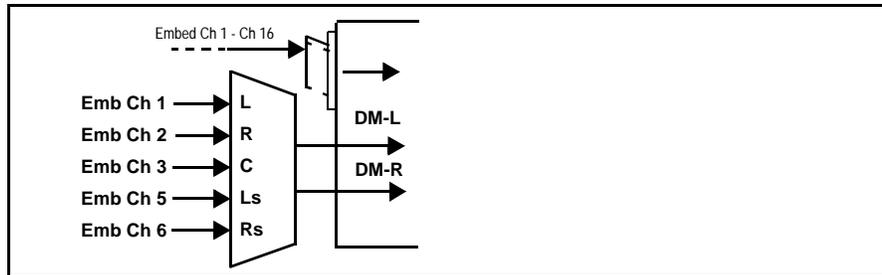

Figure 1-4 Audio Down Mix Functional Block Diagram with Example Sources
(See Figure 1-4.) The Audio Down Mixer function provides for the selection of any five embedded channels serving as Left (L), Right (R), Center (C), Left Surround (Ls), and Right Surround (Rs) individual signals to be multiplexed into stereo pair Down Mix Left (DM-L) and Down Mix Right (DM-R). The resulting stereo pair DM-L and DM-R can in turn be routed to any embedded audio pair as desired (or de-embedded to an AES or analog audio output).